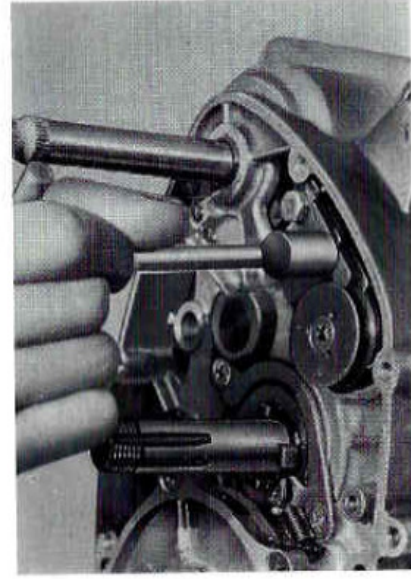

Fig. 8-2-22
22. Straighten the cam guide washer with a chisel and hammer. Loosening two bolts with 10 mm wrench, take off the **cam stop plate** and the **cam guide**. (Fig. 8-2-22)